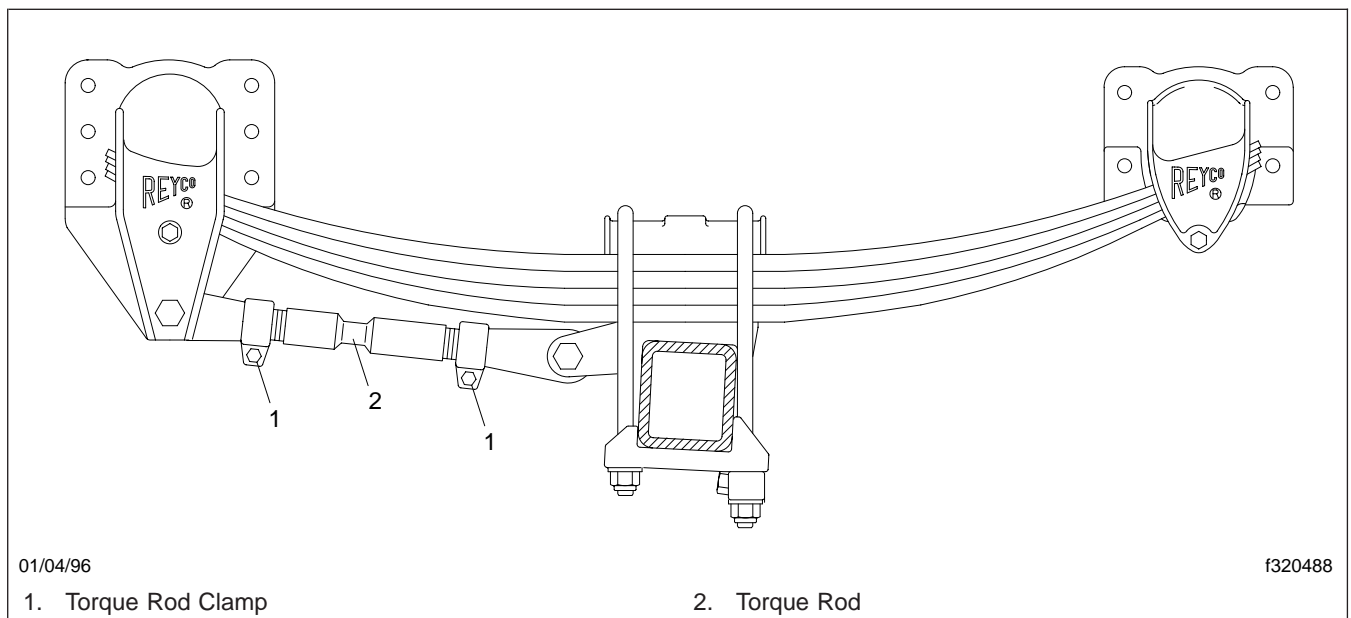

Fig. 9, Reyco 79KB Torque Rod Clamp Position
2. Check that the torque rod clamps are directed away from the spring to prevent possible interference during operation. See Fig. 9.